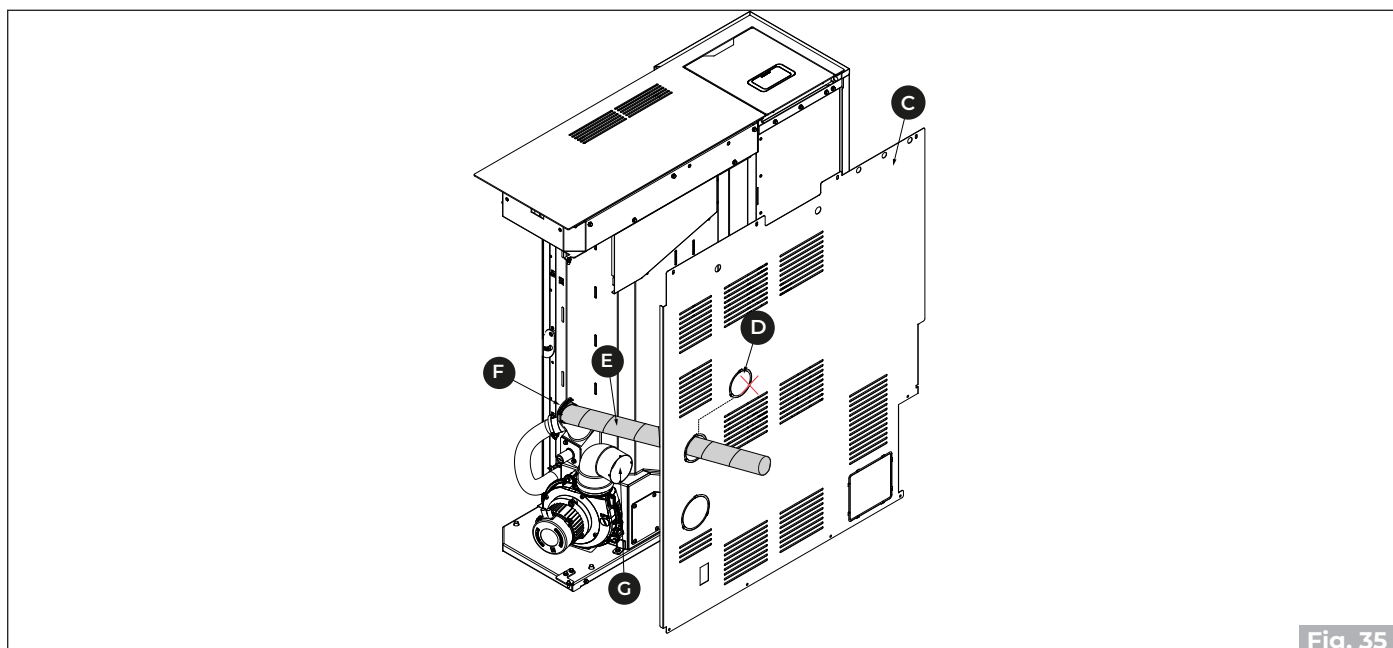

Fig. 35
- Remove the preform **(D)** on the back panel **(C)** and insert the flexible hose **(E)** to connect it to an outside air intake ("Fig. 35").